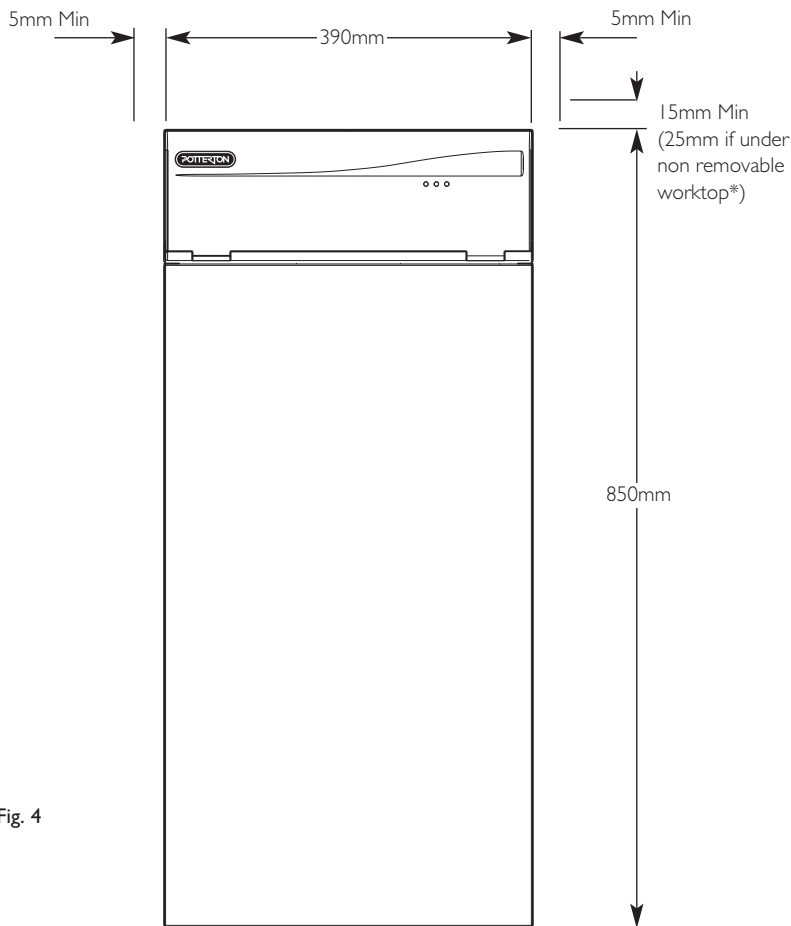

Fig. 4
4. Your boiler should have the following minimum clearances for Safety and Maintenance (Figs. 4 & 5):-